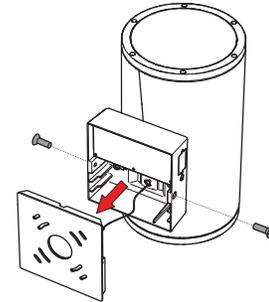

Figure 1
1. Remove the screws from the fixture mount and remove the quick mount plate [Figure 1].